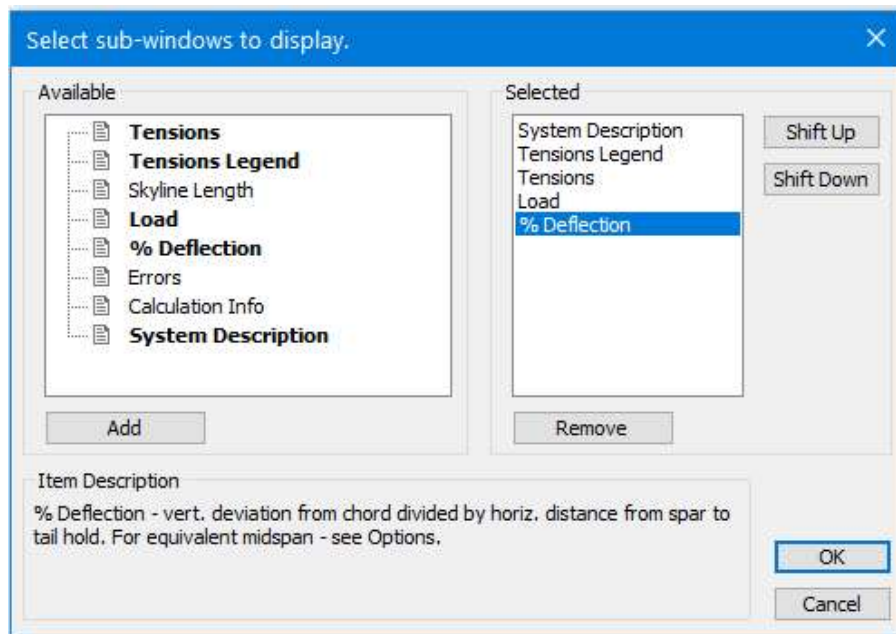

Figure 4-12: The Select sub-windows to display dialogue box.
6. In the Sub-Windows portion of the dialogue box press **Select** to open the dialogue box shown below in Figure 4-12